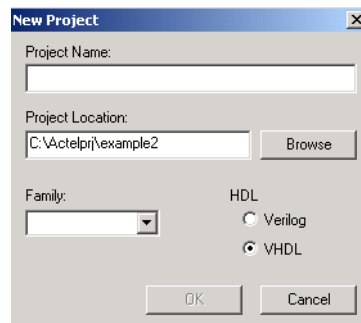

Figure 3-1. New Dialog Box
2. **From the File menu, click *New Project*.** This displays the New Project dialog box, as shown in Figure 3-1.
1. **From the File menu, click *New*.** This displays the New dialog box, as shown in Figure 3-1.